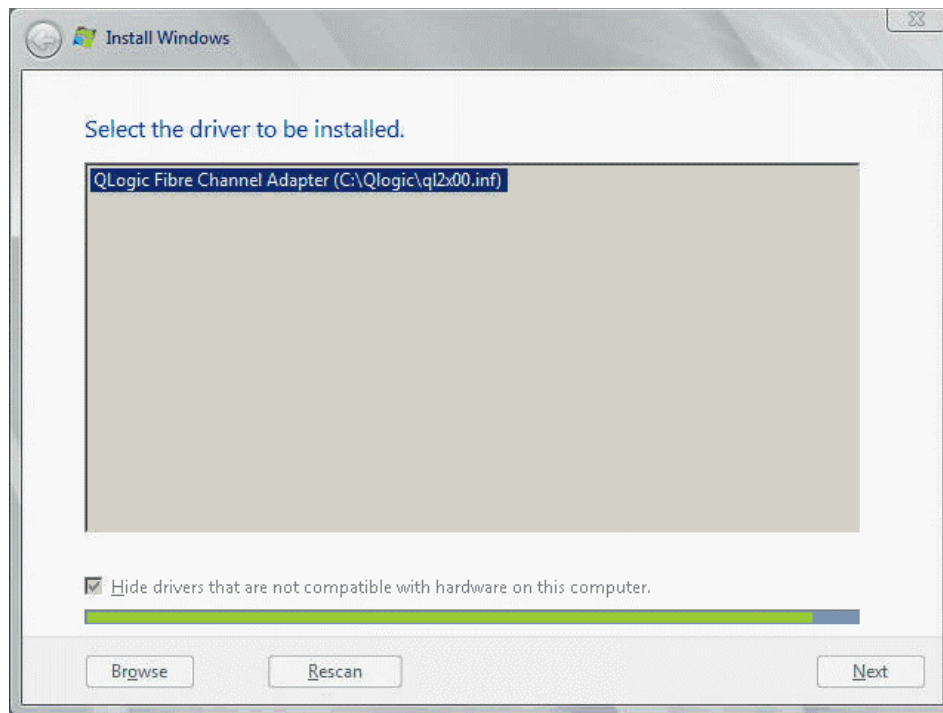

Figure 2-81 Loading HBA driver Windows 2008 R2 SP1
2. If the driver is found, it will be loaded as shown in Figure 2-81.